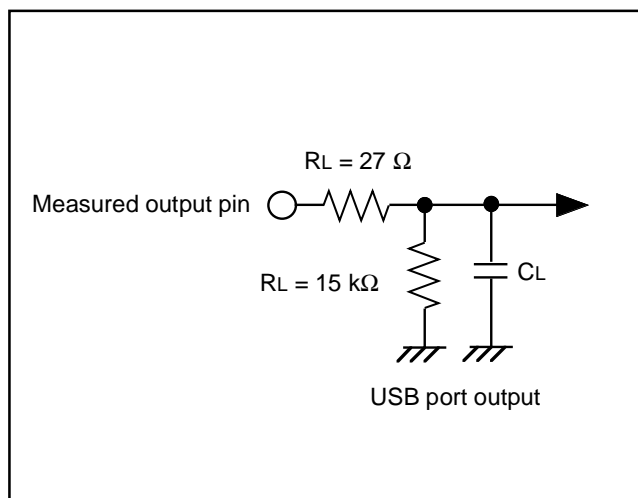

Fig. 138 USB output switching characteristics measurement circuit (1) for D0-
P. 118	Figures 138 and 139 are added.